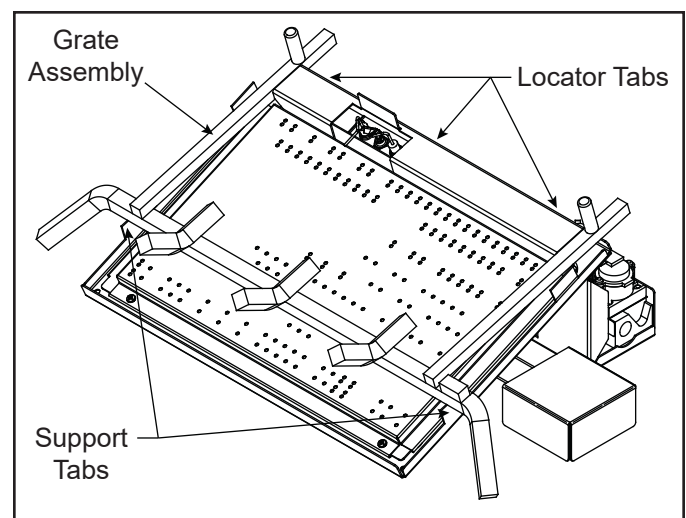

Figure 8.2 Grate Placement
2. The front grate bar should rest on the two support tabs located on the side of the burner base assembly. This will position the grate front to back, and side to side.. See Figure 8.2.